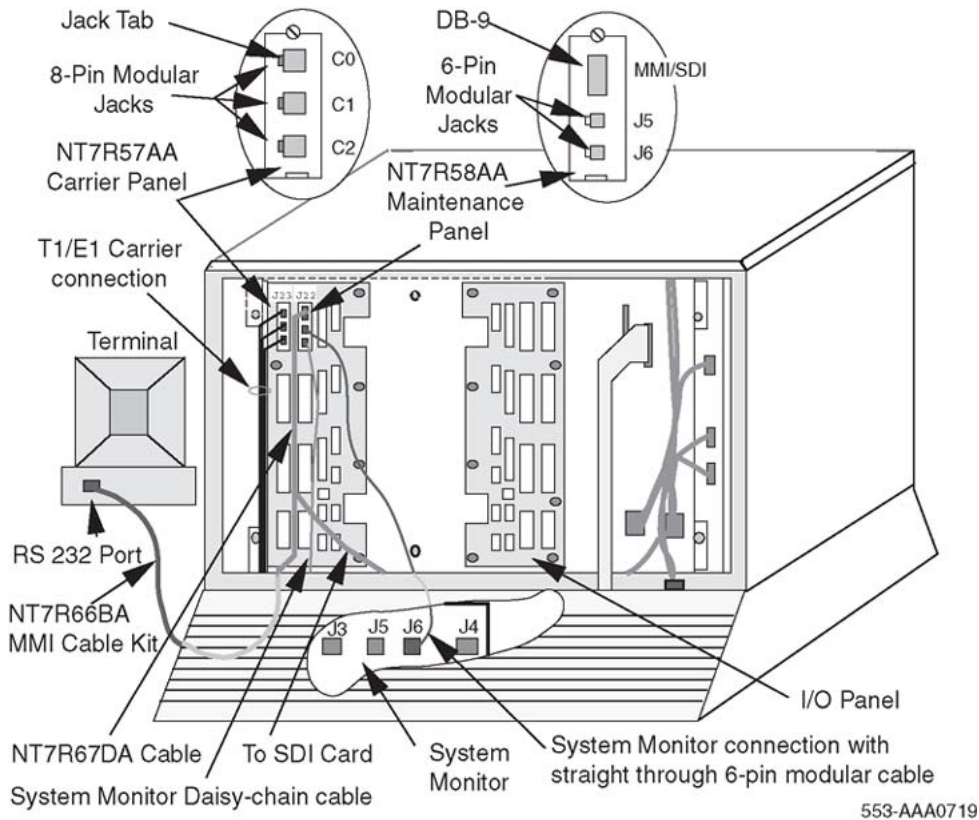
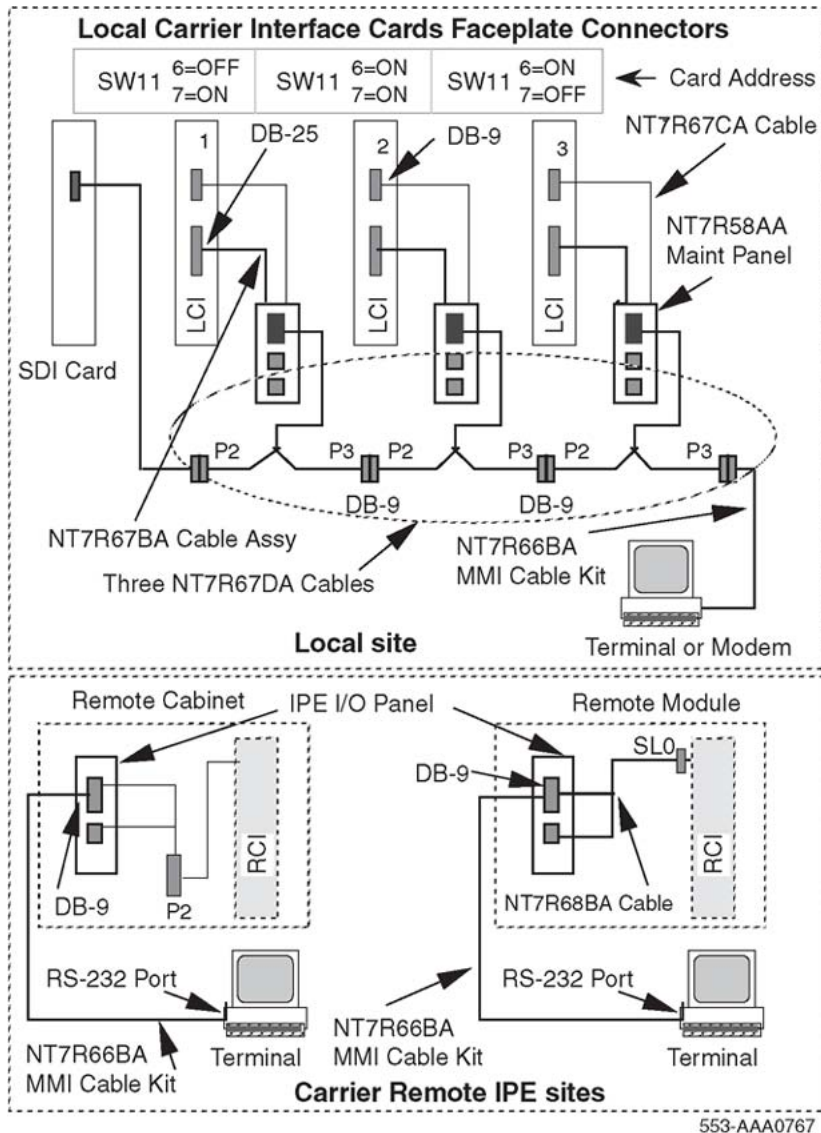

Figure 11: System monitor, local MMI terminal, and carrier links cable connections
Figure 12: Daisy-chaining multiple Local Carrier Interface cards
Note 3: SW11 switch positions 6 and 7 specify the connections of each NT7R51AA Local Carrier Interface card in a daisy-chain using the NT7R67DA External Maintenance cable. The P2 connector on this cable connects towards the host (SDI port) and the P3 connector connects toward the terminal in a daisy-chain configuration (Refer to Figure 11). When only one LCI is installed, the P2 connector connects to the SDI port and the P3 connector connects to the MMI terminal.
Refer to Figure 11: System monitor, local MMI terminal, and carrier links cable connections on page 70 for connector orientation.
For a single Local Carrier Interface card equipped in the local system, the P3 DB-9 male DCE connector on the NT7R67DA cable assembly is used to connect to the local MMI terminal. The P2 DB-9 female DTE connector is used to connect to an SDI port on an SDI card, which allows the MMI terminal to access the local system as a host. Refer to Figure 11: System monitor, local MMI terminal, and carrier links cable connections on page 70 and Figure 26: Single LCI connection diagram \(local site connections\) on page 179.
For multiple Local Carrier Interface cards, refer to Figure 12: Daisy-chaining multiple Local Carrier Interface cards on page 76 and Figure 27: Multiple LCIs connection diagram \(local site daisy-chain connection\) on page 180 that shows how to connect multiple Local Carrier Interface cards to multiple I/O panel assemblies to provide MMI and SDI connections for all Local Carrier Interface cards. To facilitate equipment maintenance, follow the same order as for the system monitor daisy-chain in descending order from the MMI terminal to the SDI port.
Figure 11: System monitor, local MMI terminal, and carrier links cable connections on page 70 shows the NT7R57AA Carrier Panel and NT7R58AA Maintenance Panel assemblies with the system monitor, the SDI/TTY, and the carrier connections. The NT7R58AA Maintenance panel assembly connector is used to connect the SDI port and the local MMI terminal. The NT7R57AA Carrier panel assembly is used to connect the three carriers.
1. To connect multiple NT7R51 Local Carrier Interface cards in a daisy-chain configuration and to the MMI terminal, connect the cables as shown in Figure 12: Daisy-chaining multiple Local Carrier Interface cards on page 76 and Figure 27: Multiple LCIs connection diagram \(local site daisy-chain connection\) on page 180:
Figure 12: Daisy-chaining multiple Local Carrier Interface cards on page 76 shows daisy-chaining of multiple Local Carrier Interface cards to allow sharing of an SDI port and a terminal or TTY.
The NT7R58AA Maintenance Panel assembly provides two 6-pin modular jacks to connect to the system monitor located in the pedestal and one DB-9 SDI/TTY connector. The 6-pin modular jack J5 is used to connect to the system monitor J6 jack in the pedestal, as shown in Figure 11: System monitor, local MMI terminal, and carrier links cable connections on page 70. The J6 jack on the NT7R58AA Maintenance Panel is used to connect to a slave system monitor daisy-chain as shown in Figure 12: Daisy-chaining multiple Local Carrier Interface cards on page 76.
To connect the system monitor cable from the NT7R58AA Maintenance Panel assembly to the system monitor in the same column, refer to Figure 11: System monitor, local MMI terminal, and carrier links cable connections on page 70 and Appendix C, Figure 30: Local site system monitor connection diagram \(single and multiple LCI configuration\) on page 183, and follow the steps in Connecting a single Local Carrier Interface card to the system monitor on page 77.